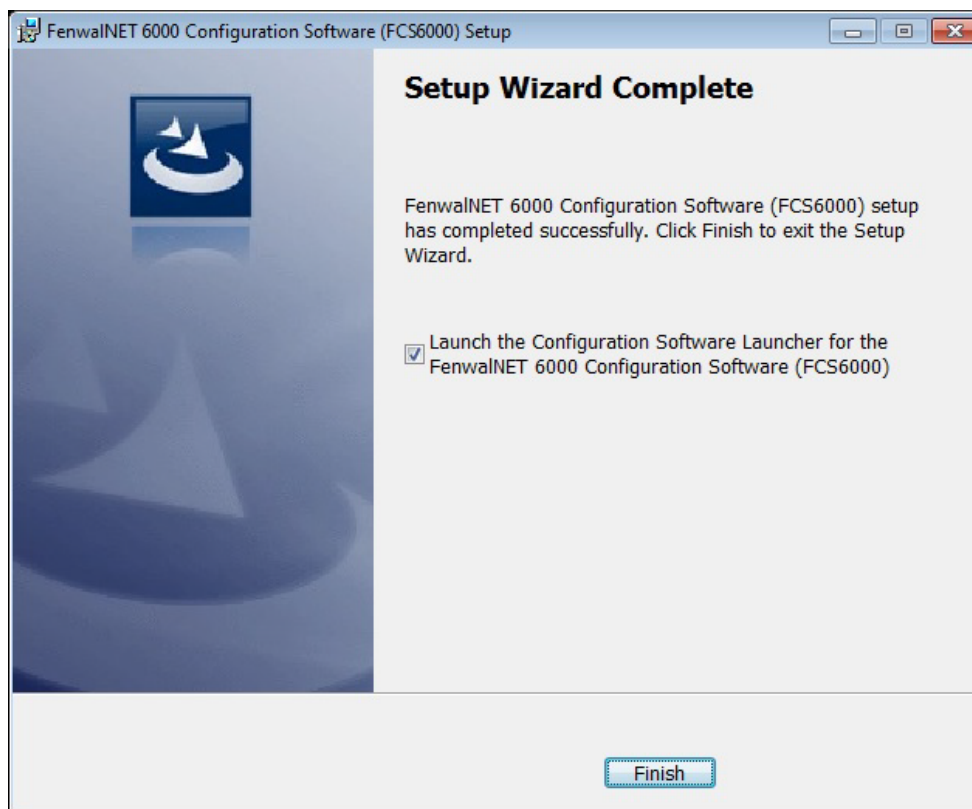

Figure 1-3. Setup Wizard Complete Screen
6. The Setup Wizard Complete screen displays (Figure 1-3). Setup of FCS 6000 is complete. If you have rebooted the computer after installing the FCS 6000 software previously, there is no need to reboot now. You can select "Launch the Configuration Software Launcher for the FenwalNET 6000 Configuration Software (FCS 6000)" radio button to start the software, then select <Finish>.